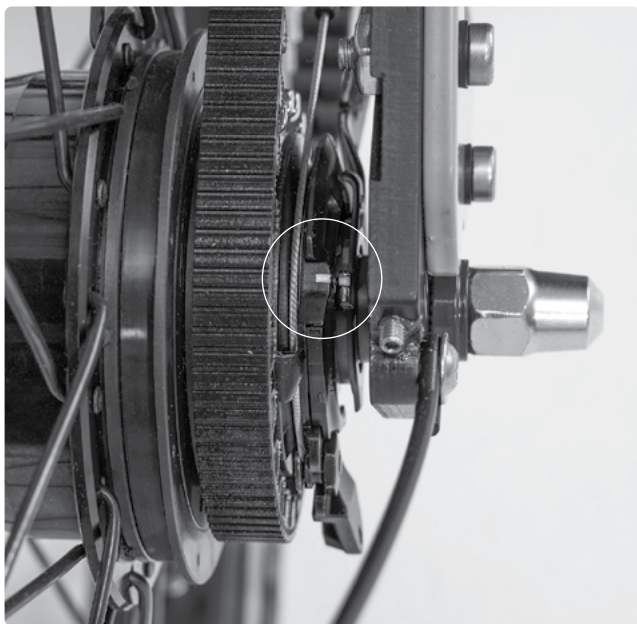

FIG. 47
- 3 Stop turning when both yellow markings are once again on the same level (Fig. 47).